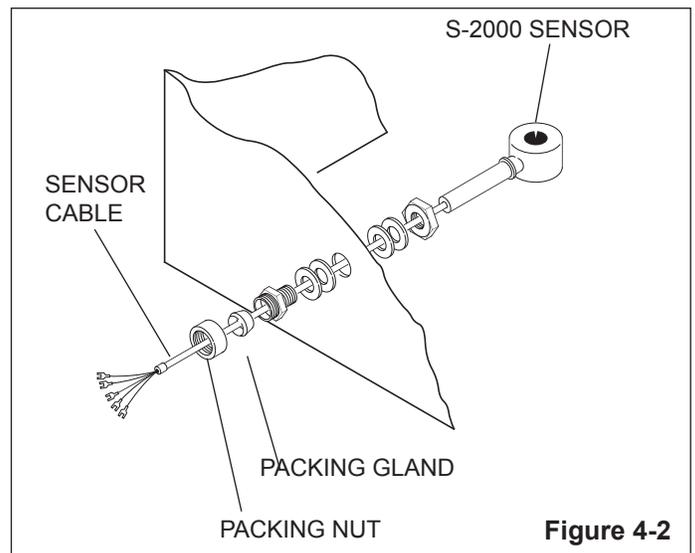

Figure 4-2
3. Attach the sensor connector to the tank using the provided metal lock nut and the stainless steel and rubber washers on both the inside and outside surfaces of the tank wall. Regardless of which sensor is used, the packing nut end of the tank connector must be on the outside of the machine wall, refer to Figure 4-2.